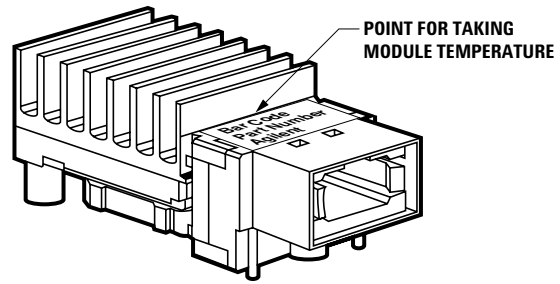

Figure 2. Case temperature measurement
| Case Temperature                                   | $T_C$               | 0        |         | +80         | °C                | 2, Figures 2,    |
2. Case Temperature is measured as indicated in Figure 2.